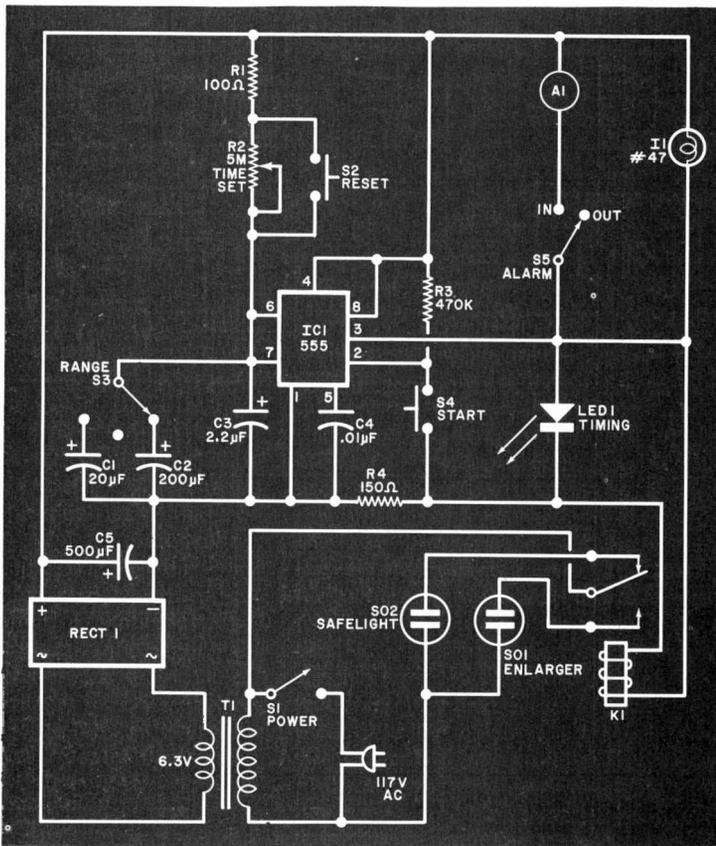

Fig. 1. Basic 555 timer can be adjusted for almost any desired timing ranges. The relay circuit allows timing an enlarger then turning on safelight.
Power for the Fig. 1 circuit can be a conventional 9-volt battery or dc power supply. When the Fig. 2 circuit is added, four AA cells in series can be used to power the LED display. *POWER* switch *S1* controls both power sources.
*Fig. 3. Actual-size etching and drilling guides for the two-sided pc board are shown below. Component mounting on the top is at left. Note that the upper portion of the board (containing the audible circuit shown in Fig. 1) can be detached if only that circuit is to be used.*
of the Sink Sentinel is shown in Fig. 1. It is based on a conventional 555 timing circuit (*IC1*). *TIME SET* potentiometer *R2* and *RANGE* switch *S3*, the latter selecting the appropriate range capacitor (*C1* and *C2* shown, but more capacitors can be added, as desired), determine the timing range.
and C values shown in Fig. 1 were set in three ranges. The first and most commonly used for photographic printing and enlarging is from about 3 to 23 seconds; the second from 20 seconds to nearly 3 minutes; and the last from 3 to almost 30 minutes. If desired, the R and C values can be changed to produce any desired timing interval.
An optional enlarger/safelight powering arrangement is provided by sockets SO1 and SO2 and relay K1, as shown in Fig. 1. If you prefer not to have this option, you can eliminate K1 and SO1 and SO2. Assuming you decide to keep this option, when K1 is not energized at the end of a timing cycle, SO2 is powered and can be used to power your safelight. During the timing cycle, K1 is energized, connecting SO1 to the power line for powering an enlarger.